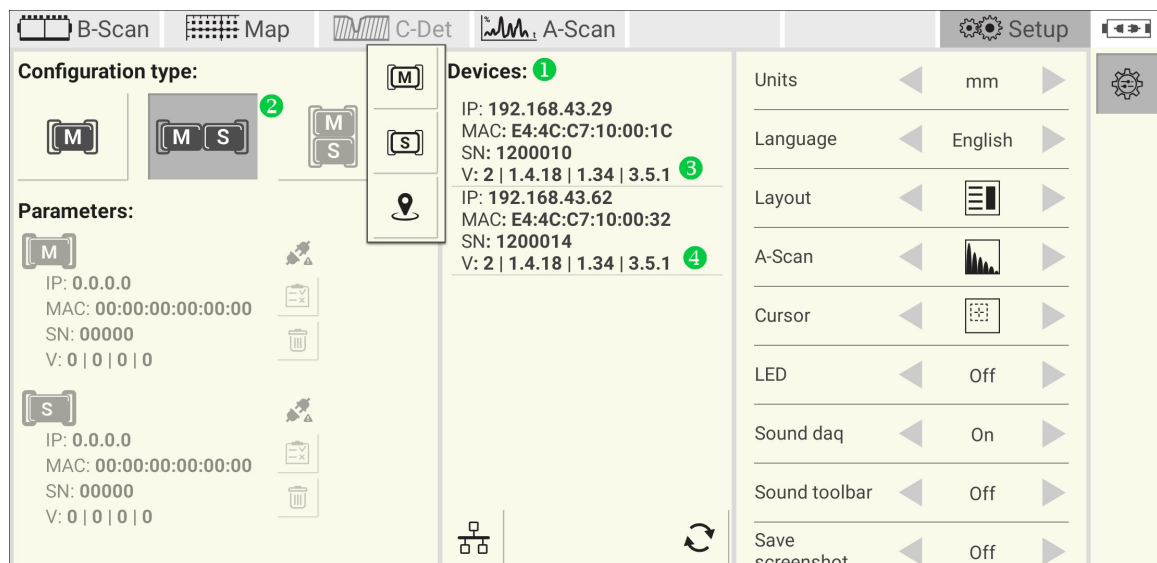

Figure 23: A1040 MIRA 3D PRO configuration
Switch on the tomograph, establish the connection to the hotspot and start the app. After the scan finishes, the device list ① shows all available devices. Select A1040 MIRA 3D PRO-configuration ② and tap on a device item ③ or ④ to assign the device as a master [M] or as a slave [S], Figure 23.